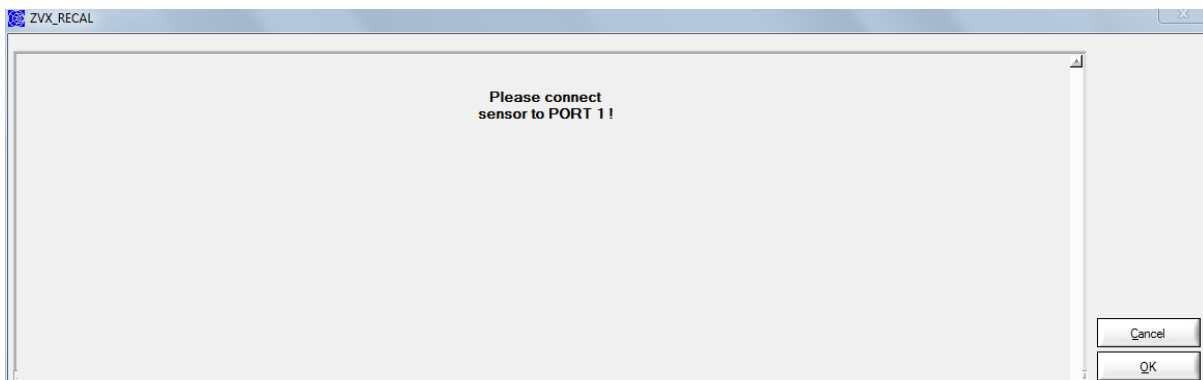

Fig. 6-8 Prompt to connect the DUT
- Connect the DUT to the network analyzer and confirm the procedure (Fig. 6-8)